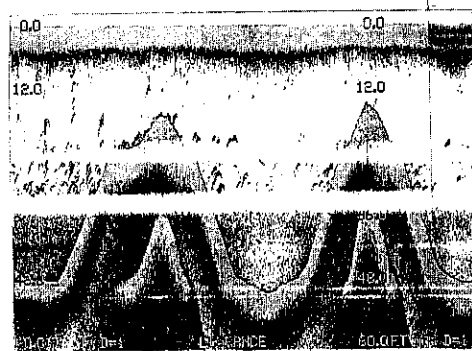

FIGURE 36
7. After installing, if the stylus won't print all the way down the paper as shown in Figure 36, bend the right leg down so that more pressure is exerted against the stainless steel plate. If it still does not print all the way, bend the left leg down more, but not so far that it digs into the paper.